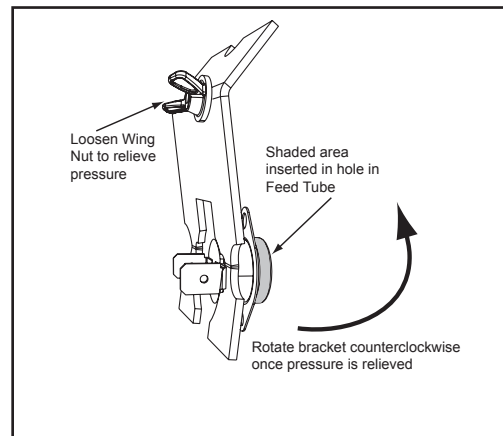

Figure 22.4
- j. Loosen wing nut to relieve the pressure on snap disc from the bracket. The shaded area of the snap disc is inserted into a hole in the feed tube. **NOTE:** You may need pliers to start the wing nut. **Figure 22.4.**